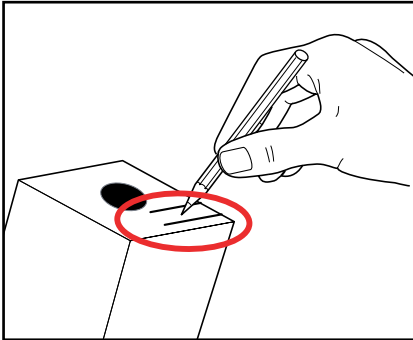

Fig. 4
6. Follow the instructions on the product pack. Write at least the expiry date on the product pack (fig. 4).